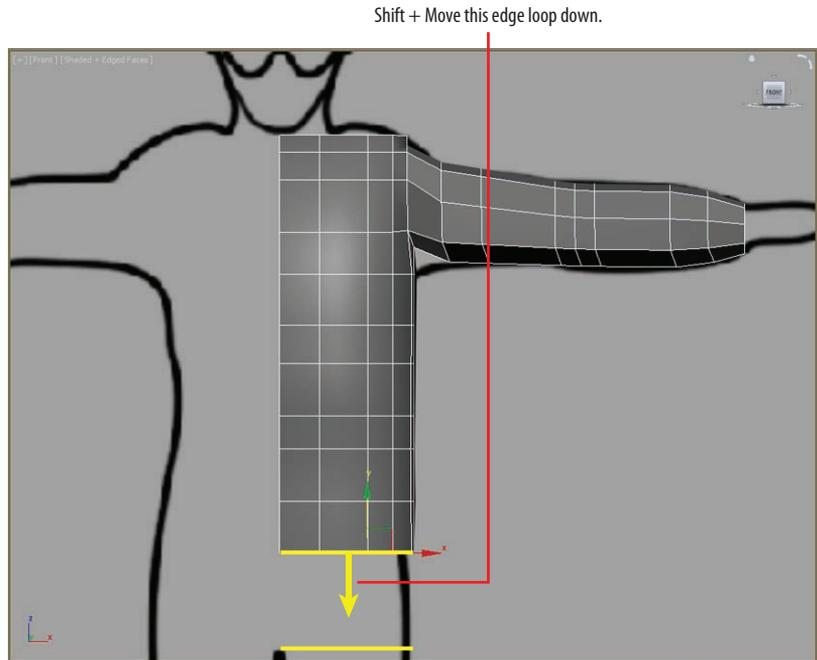

FIGURE 7.24 Select the edge loop at the bottom of the model and Shift+Move it down.
- Now Shift+Move the loop down on the Y-axis to create a new extrusion all the way down to the groin in the reference illustration, as shown in Figure 7.24.